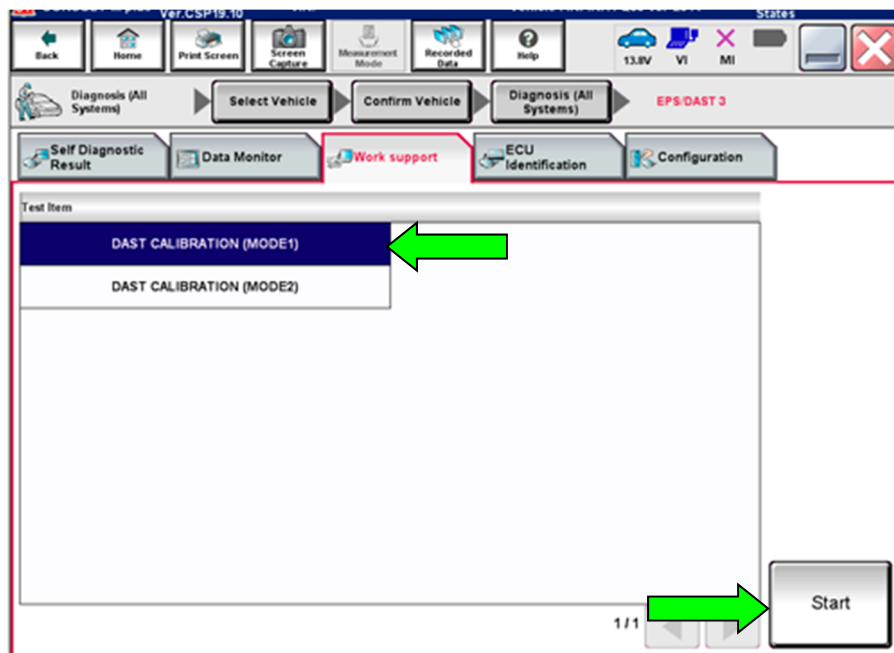

Figure 6
- 21. On the C-III plus screen, select **Diagnosis (All Systems)**. After system call has completed, select **EPS/DAST 3 > Work support > DAST CALIBRATION (MODE1)**. See Figure 6.